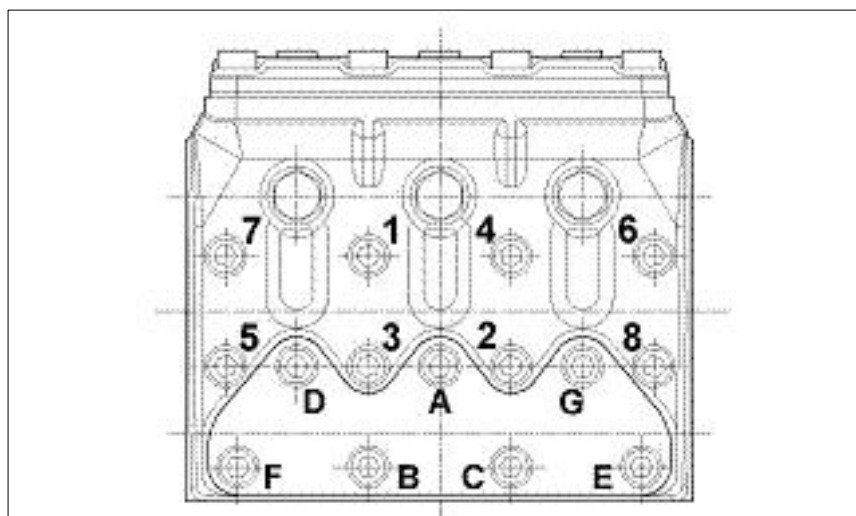

fig. 24
** The head fixing screws must be tightened with a torque wrench, lubricating the underhead, respecting the order in fig. 24
*** The valve cover fixing screws must be tightened with a torque wrench, lubricating the underhead, respecting the order in fig. 24